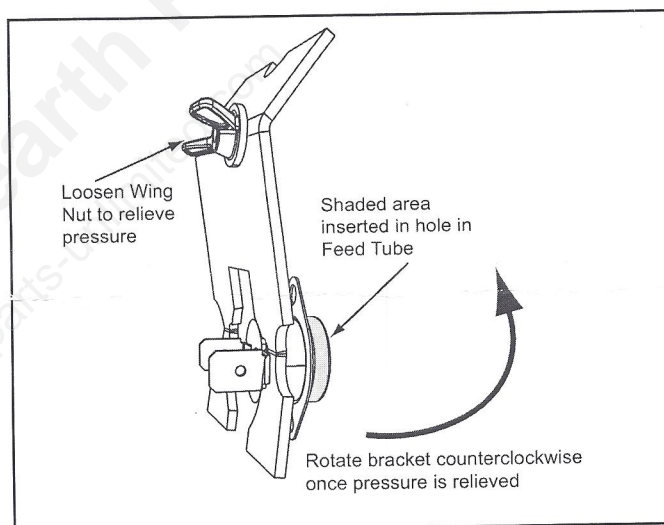

Figure 5
11. Loosen wing nut to relieve the pressure on snap disc from the bracket. The shaded area of the snap disc is inserted into a hole in the feed tube. **NOTE:** You may need pliers to start the wing nut. **Figure 5.**